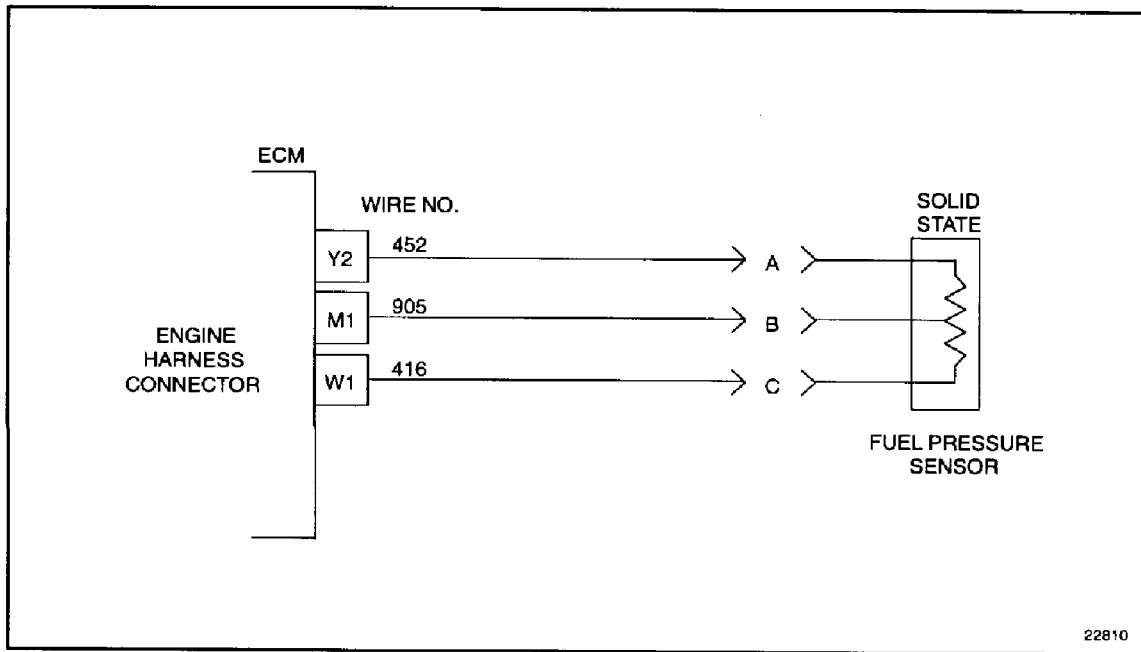

Figure 38-2 Engine Harness Connector to Fuel Pressure Sensor
2. Disconnect FPS connector and install a jumper wire between sockets B and C of the FPS harness connector. See Figure 38-2.